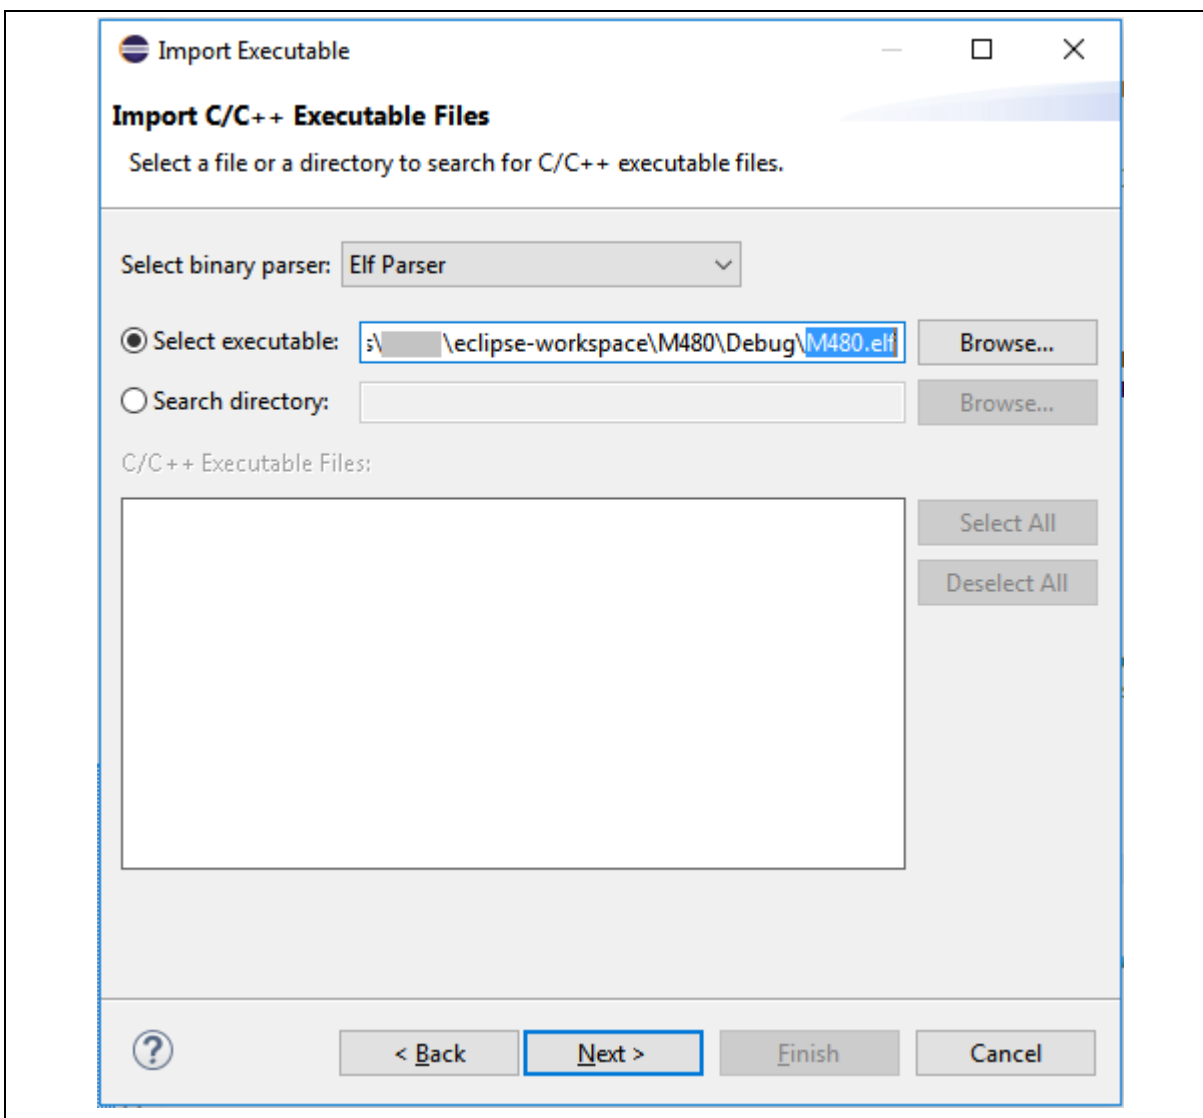

Figure 4-27 Selecting Executable
2. Click Browse following Select executable, then select an executable (referring to Figure 4-27).
2. Click browse following select executable, then select an executable (referring to Figure 4-27).